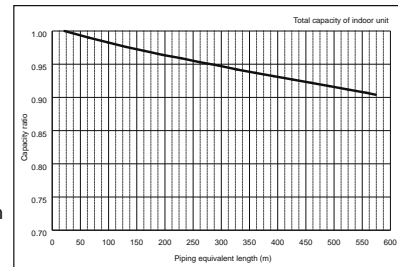

Figure 6 Correction of refrigerant piping length
- Piping Length Correction (328 ft) 0.94 (Refer to Figure 6)